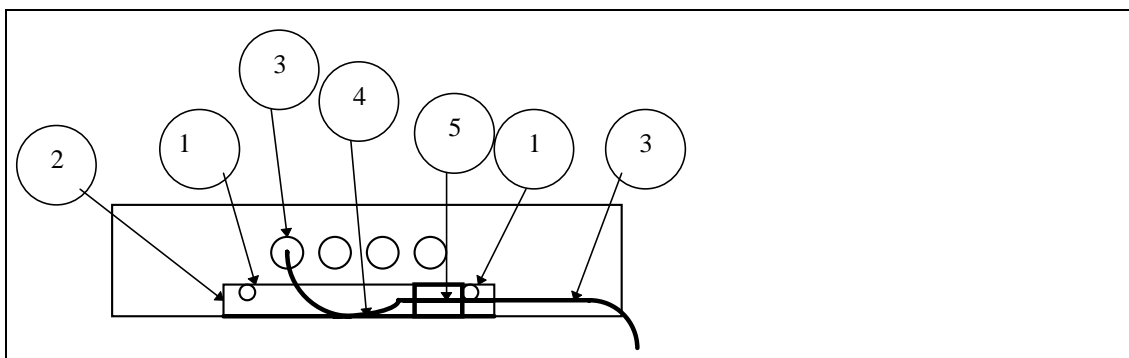

Fig. 1
- Place a lockwasher between the metal bracket (Fig. 1 / 2) and the Memoskop and secure it with the supplied screws.
- Route the video cable, plugged into the Memoskop "Video IN" jack, to the metal bracket as shown in Fig.1/3.
- Mark the location of the clamp (Fig.1 /4) on the video cable and carefully remove the outer cable insulation at this location.
- Attach a ferrite core over the video cable at the point shown in Fig. 1/5.
- Attach the MS power supply to the plate from underneath using the bracket; see Fig. 1.